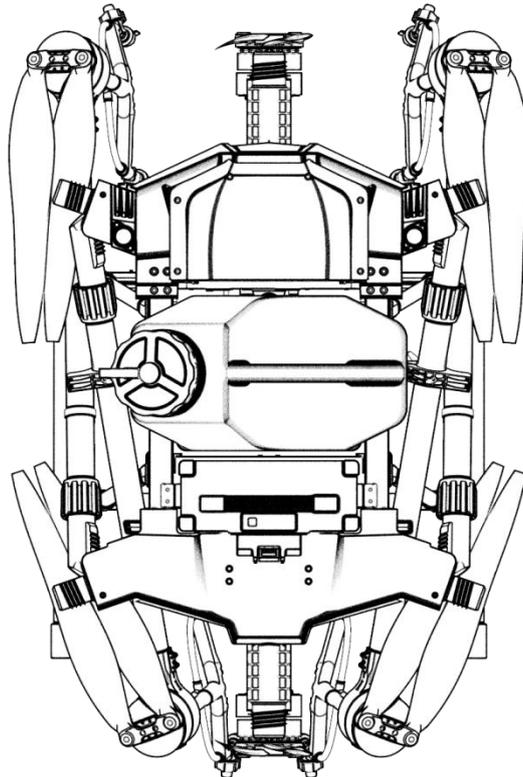
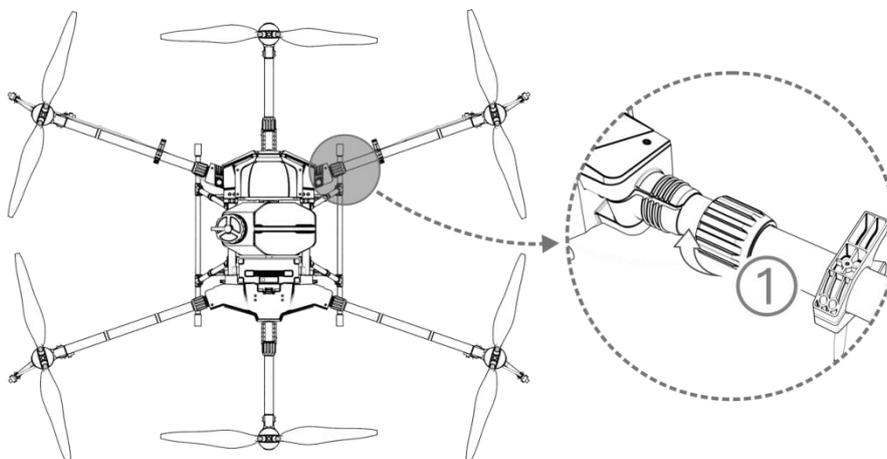

Figure 1-4-3 Arm Folded State
Figure 1-4-4 Arm Unfolded State
Step3: Unfold the arm to 180° from the folded state (See Figure 1-4-3) to the unfolded state (See Figure 1-4-4).
Step4: Tighten the arm sleeves as shown in Figure 1-4-4.